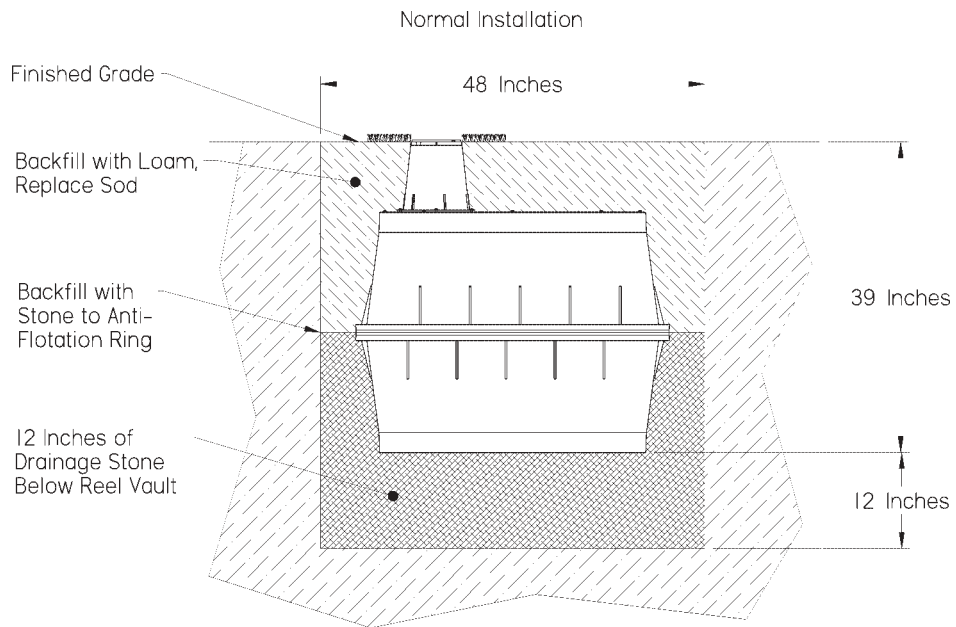

Figure 3
3. Place 12" of drainage stone on the bottom of the hole. See Figure 3.
5. Place reel unit in the hole and level. Compare the height of the riser opening with the finished grade, the top of the riser should be at grade level. See Figure 3. Add or remove stone to adjust the height of the riser to grade level.
7. Check the system for leaks. If none, backfill the hole with drainage stone to the anti-flotation ring located at the center of the case. See Figure 3.